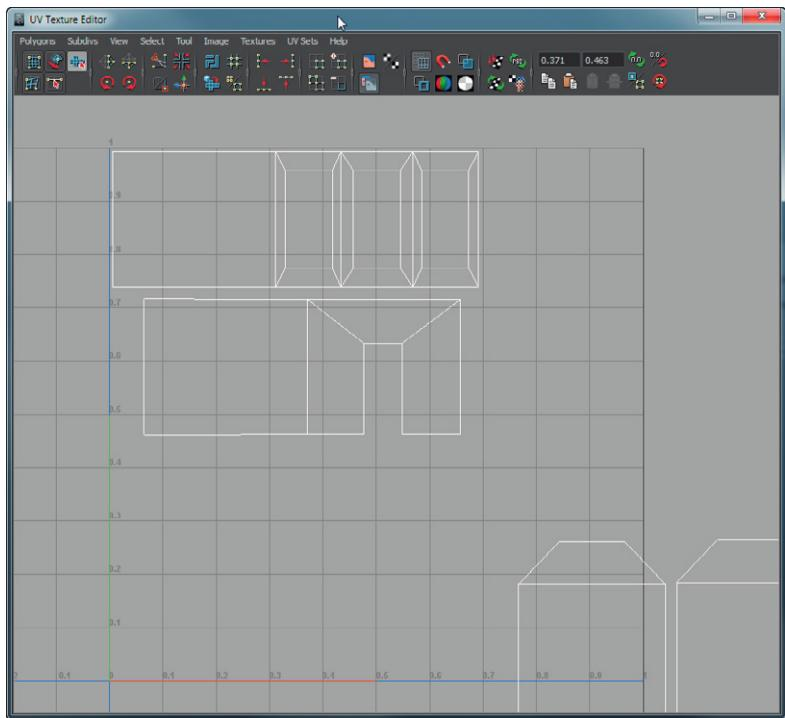

FIG 5.22 Sewing up two other walls.
Step 23: Sew this wall up to the wall with the doorway. To do this select the edge (in the UV Texture Editor) that is shared between the two walls and choose Polygons > Move and Sew UVs (Fig. 5.22).